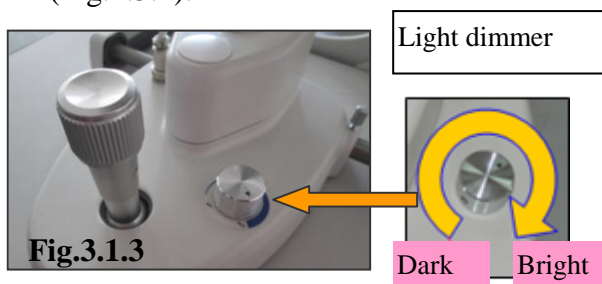

Fig.3.1.3
16. The indicator lamp will be lighted when the instrument is power on (Fig.3.1.3).
20. Rotate the light dimmer knob (Fig.3.1.3) and the brightness will go dim.
Switch on the main power. Rotate the light dimmer to the central position (Fig.3.1.3). Set the slit width at 2~3mm (Fig.2.3.1).
1. Switch off the main power. (Fig.3.1.3);
4. Switch on the power and check whether the new bulb is illuminating, and if the spot is in good shape without false light. (Fig.3.1.3).